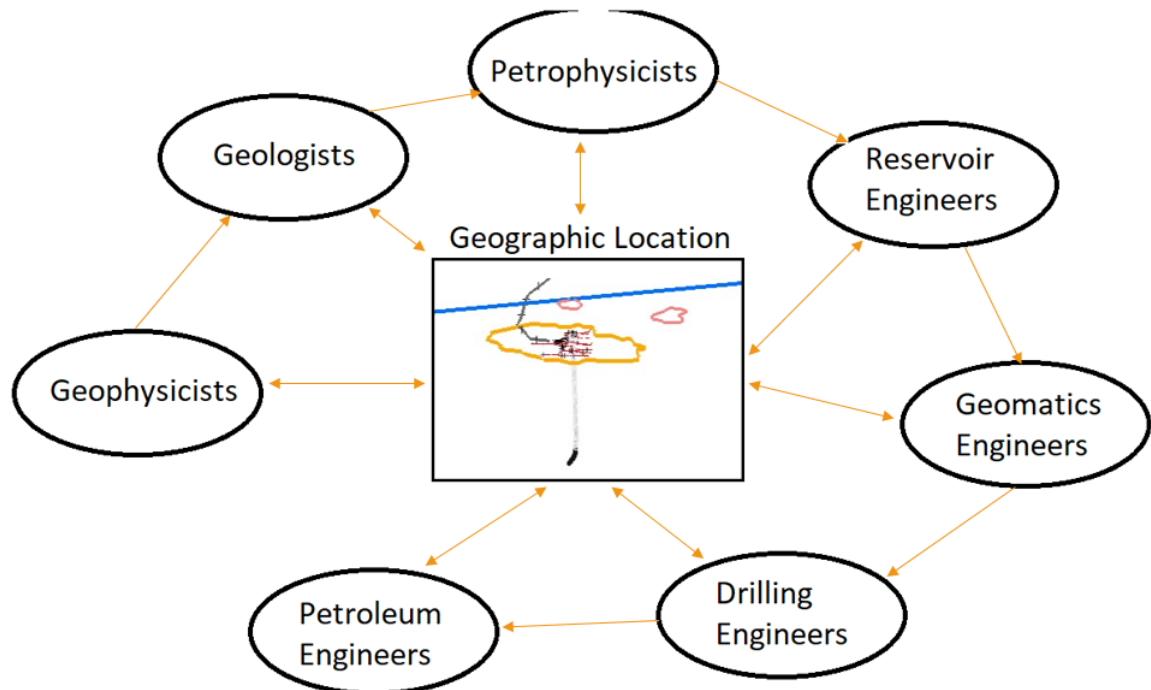

Figure 3. An Overview of the Interdisciplinary Well Planning Process
To give a taste of how the proposed ADP GIS vision would work, consider a specific application area – the well planning lifecycle. Well planning at ADP involves several disciplines who work on one common shared asset – the geographic location of the well. Figure 3 shows their typical workflows.
- The current work processes that each discipline carries out can be scrutinized and revised so that they be efficient/effective by removing repetition, waste, etc. These streamlined by automation by GIS service tools. Tools like Petrel can integrate with GIS services with GIS acting like a glue to specific discipline specific capabilities of discipline specific tools like Petrel. The same can be done to inter-disciplinary processes. Thus, all process transition arrows shown in Figure 3 by streamlined and automated.